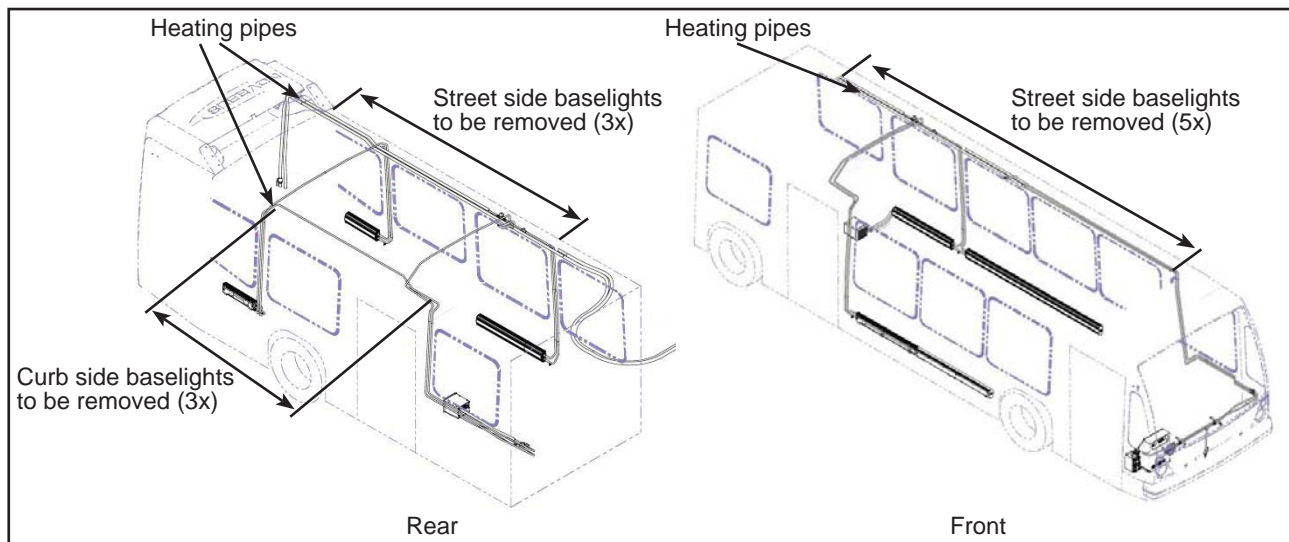

Figure 1 - Baselights to be Removed to Access Heating Pipe Supports
- 1.1. Remove eleven baselights (FRONT: five on street side; REAR: three on street side and three on curb side). See Figure 1.